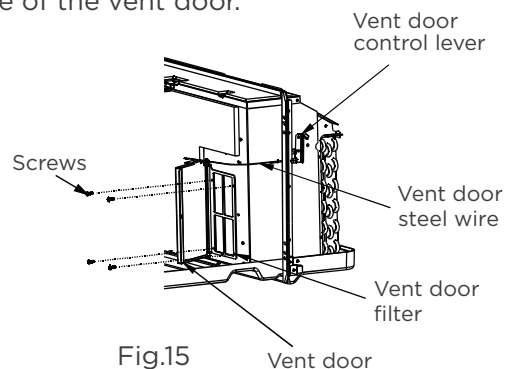

Fig.15
- Rotate the vent control lever to open the vent door. (See Fig. 15)
- Remove four screws from the vent door filter. (See Fig. 15)
- First pull out the vent door steel wire from the hole of the vent door, then take off the vent door and filter. (See Fig. 15)